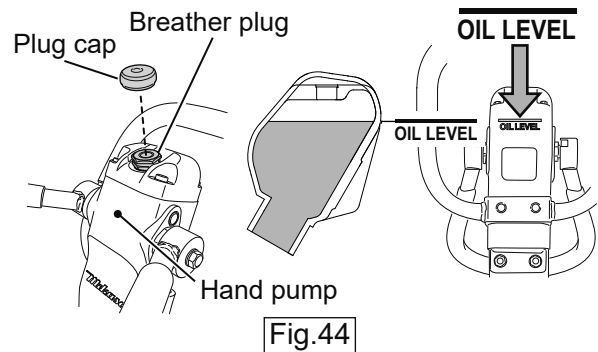

Fig.44
With the handle at the operation position, remove the breather plug at the top of the hand pump and check if the hydraulic oil is at the specified level (OIL LEVEL). (Fig. 44)
- 1 Remove the plug cap of the hand pump, then remove the breather plug (with 24mm wrench). (Fig.44)
- 4 Fill the hydraulic oil from the hole of breather plug on the hand pump. (Fig.44)
- 6 After making sure to check that the hydraulic oil should be at OIL LEVEL, reassemble the breather plug of the hand pump. (Fig.44)